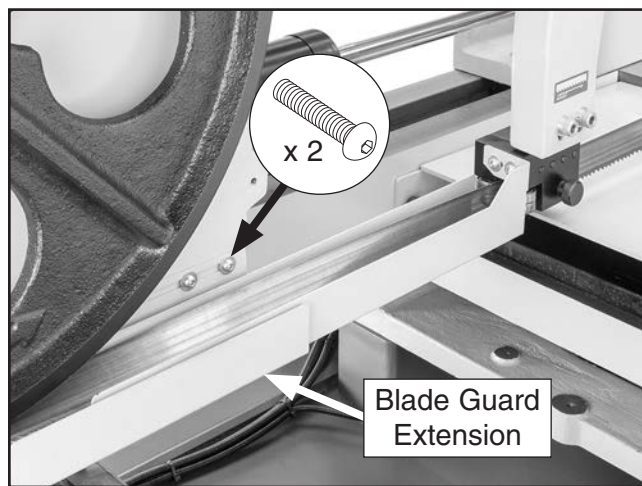

Figure 35. Blade guard extension location.
4. Remove blade guard extension (see **Figure 35**).